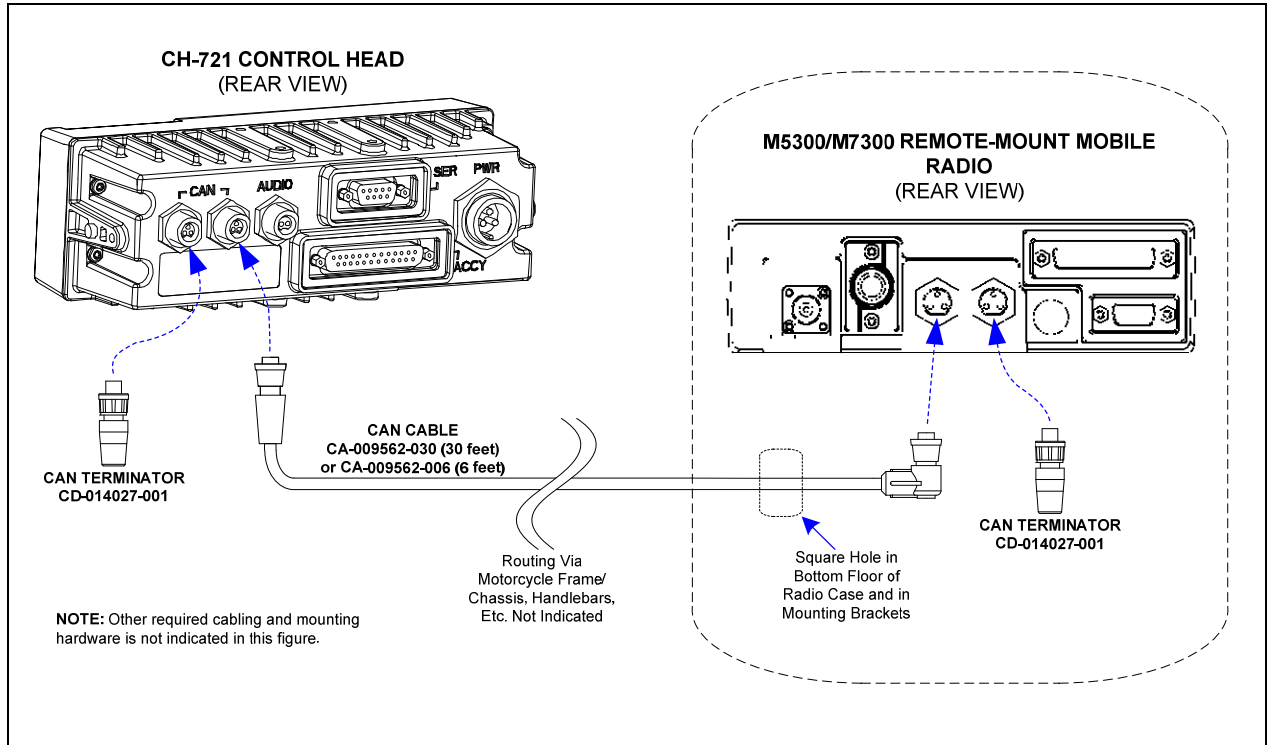

Figure 10-1: CAN Terminators and Control Head-to-Radio CAN Cable Connection
As illustrated in Figure 10-1, the radio installation requires a Controller Area Network (CAN) cable between the radio and the control head, a CAN terminator at the radio, and a CAN terminator at the control head. The radio and the control head each have two (2) CAN port connectors on the rear panel.